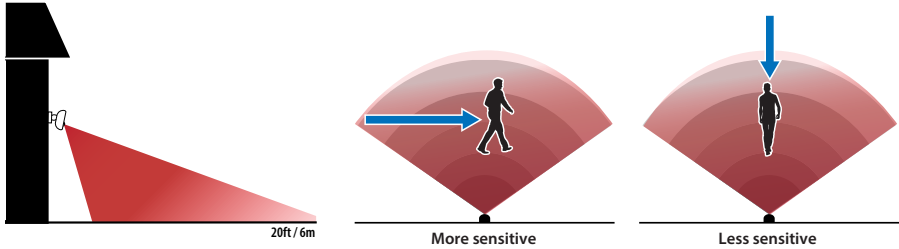

Figure 3
3. Within 25 seconds, power up the spotlight by turning the front cover clockwise to the lock position ▼ to secure the battery compartment (see **Figure 3** on previous page). The Sensor Channel melody sounds with the corresponding Sensor Channel LED indicator blinking on the Indoor Alarm Receiver to confirm successful pairing.
- For optimal coverage, mount the spotlight approximately 2 meters/6.5 ft above the ground, pointing slightly downwards at an angle where the most likely approach path of visitors and vehicles is across the front of the spotlight. Motion detection is less effective when movement is directly towards or away from the front of the spotlight (see **Figure 3**).